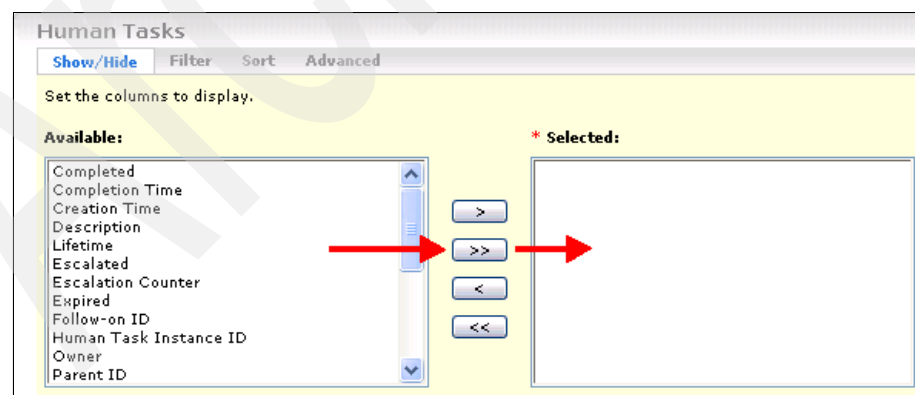

Figure A-103 Selecting the fields for human tasks
4. In the Human Tasks panel (Figure A-103):